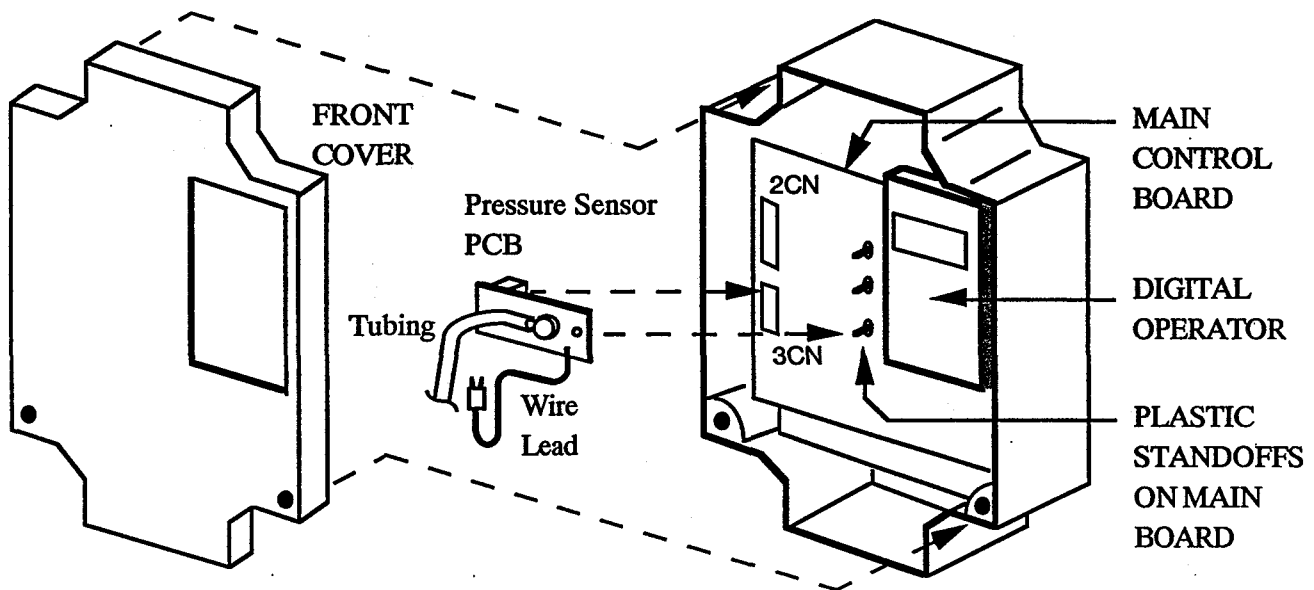

Figure 4. Installing Pressure Sensor PCB
8. See Figure 4. Install the Pressure Sensor PCB on the Main Control PCB, 1PCB, and ensure 3CN is properly connected. Connect the lead wire from the Pressure Sensor PCB to terminal 13 of the Drive.